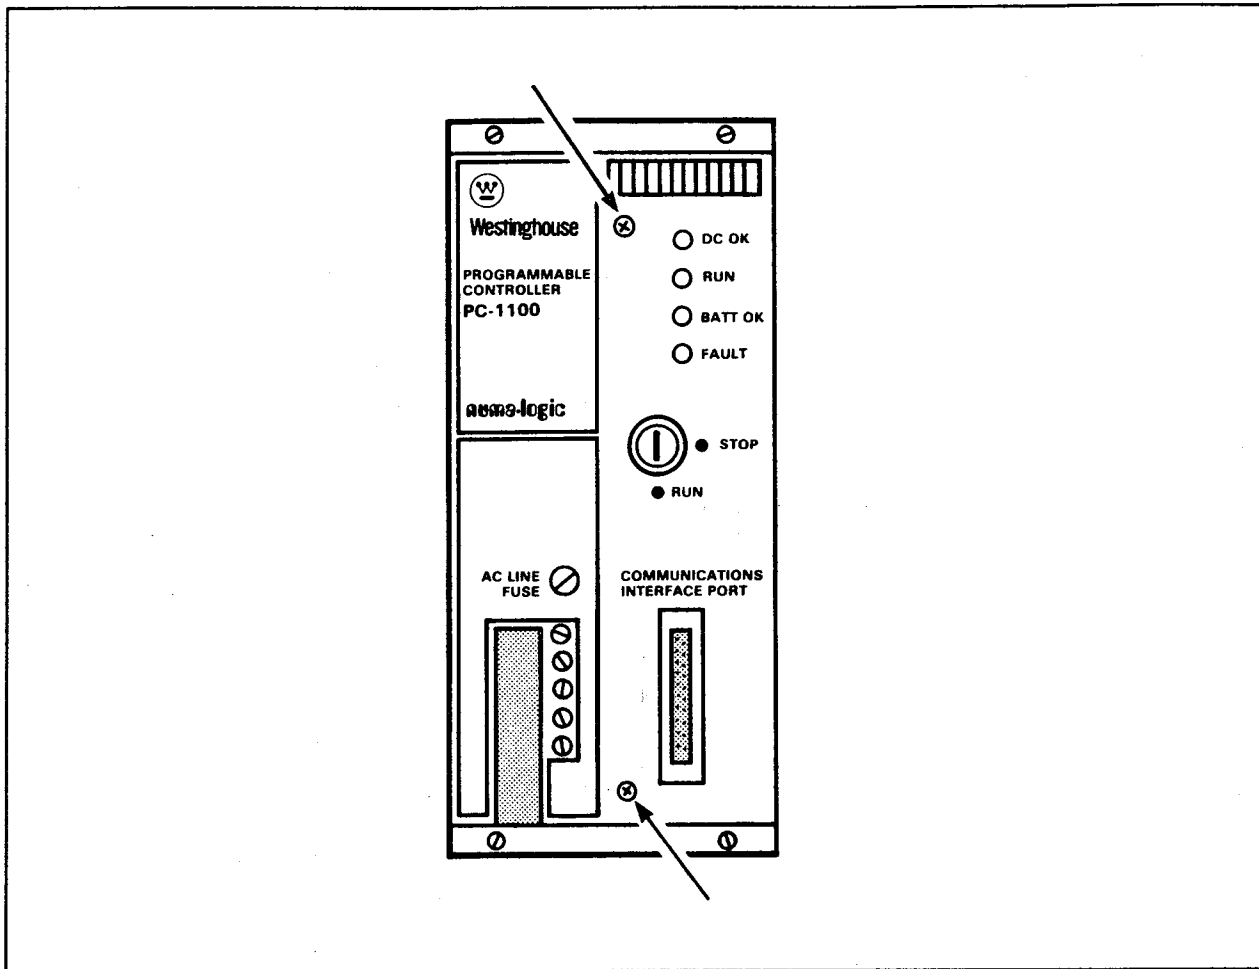

Figure 3-33. Front Panel Screws
1. Gain access to the inside of the PC-1100 or -1200 by removing the front panel. To do this, use a small Phillips screwdriver (point size of No. 0 or 1). Twist the two captive screws located on the front panel's centerline. (See Figure 3-33.) Make only a one-quarter, counterclockwise turn.
2. Remove the controller's front panel. (Refer to Paragraph 3-17 and to Figure 3-33.)